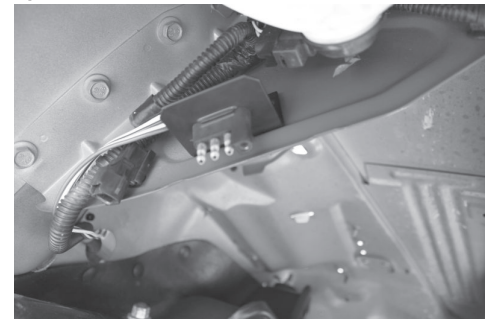

Figure 7
13. Fish through opening into opening behind bumper. Locate a suitable mounting location for the 4-flat bracket on the frame behind the driver's side taillight shown in **Figure 7**. Using the bracket as a template mark two holes and drill two 3/32" holes and attach the bracket using the two remaining screws.